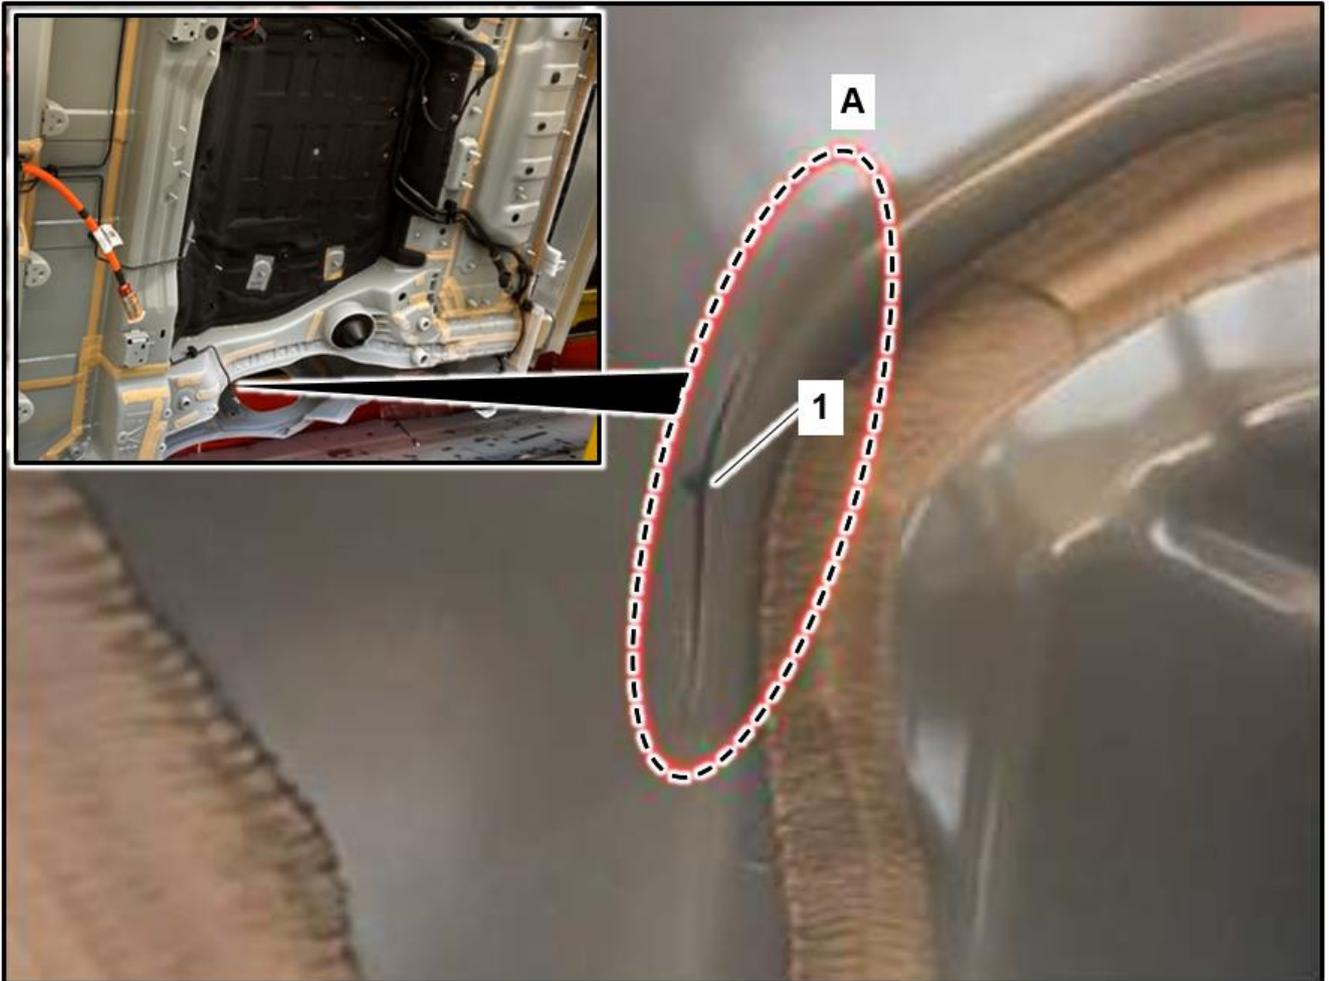

Figure 2
1. Drill out both ends of the crack (1, Figure 2) in the affected area (A, Figure 2).
2. Clean the crack (1, Figure 2) and bores in the affected area (A, Figure 2).
3. Prime the crack (1, Figure 2) and bores in the affected area (A, Figure 2) with primer filler.
4. Seal the entire area of the crack (1, Figure 2) and bores in the affected area (A, Figure 2) with seam seal.
5. Add anticorrosion protection in the affected area (A, Figure 2) in accordance with Mercedes-Benz specifications.